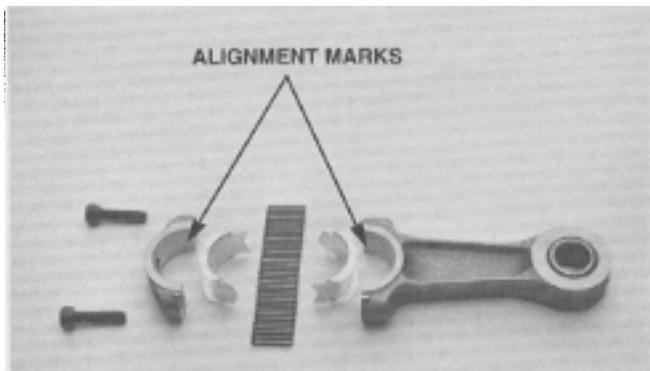

Figure 76
5. Install rod cap; ensure that mating marks are aligned. Clean old screws thoroughly and apply Loctite 271 (Figure 76). Torque to 70 in•lbs (7.8 N.m).